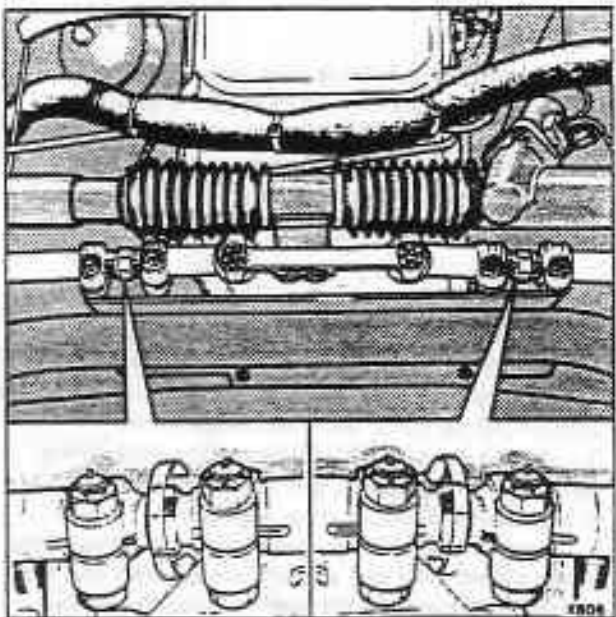

Fig. H6-3 Track rod toe-in adjustment
5. If adjustment is necessary, slacken the pinch bolts securing the track rod adjusters (see fig. H6-3). Rotate the adjusters to bring the wheels into the straight ahead position (zero toe-in).